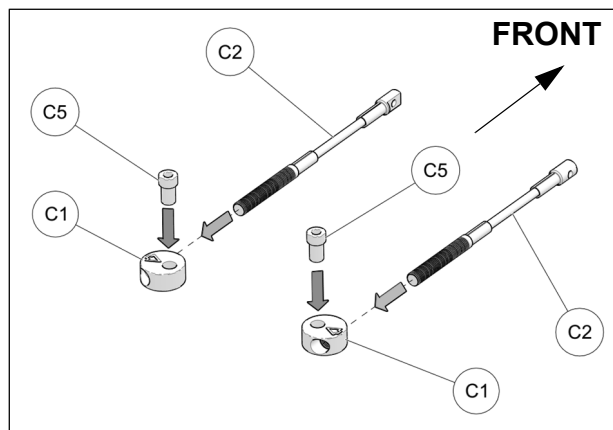

Fig. 15
7. Assemble steering limiter cables (C2), aluminum disks (C1) and step spacers (C5) together as shown on Fig. 15